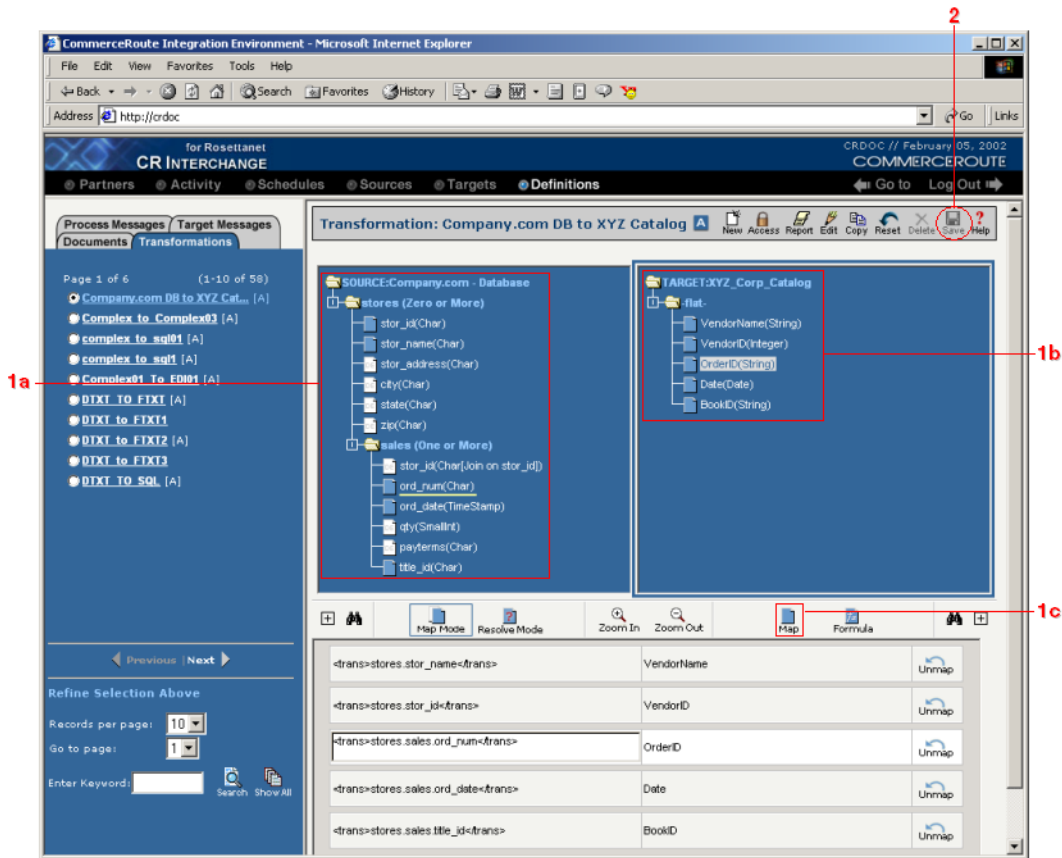

Figure 3-17. The completed Company.com DB to XYZ Corp. Catalog File transformation definition.
- 2 Click the **Save** button to save your changes. You now have a new transformation definition that maps five separate pieces of data. Your new transformation should appear in the transformation list at the left side of the screen. Compare your work with Figure 3-17 below.